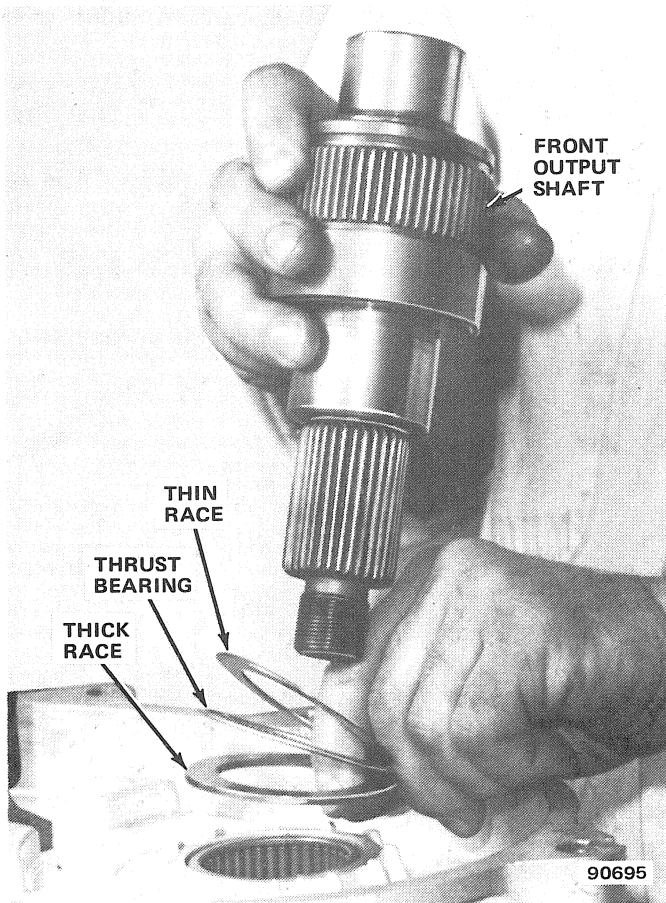

Fig. 2D-55 Front Output Shaft and Shaft Front Thrust Bearing Removal/Installation
(26) Remove mainshaft thrust washer and remove mainshaft (fig. 2D-57). Grasp shaft and pull straight up to remove.
(27) Move range operating lever downward to last detent position.